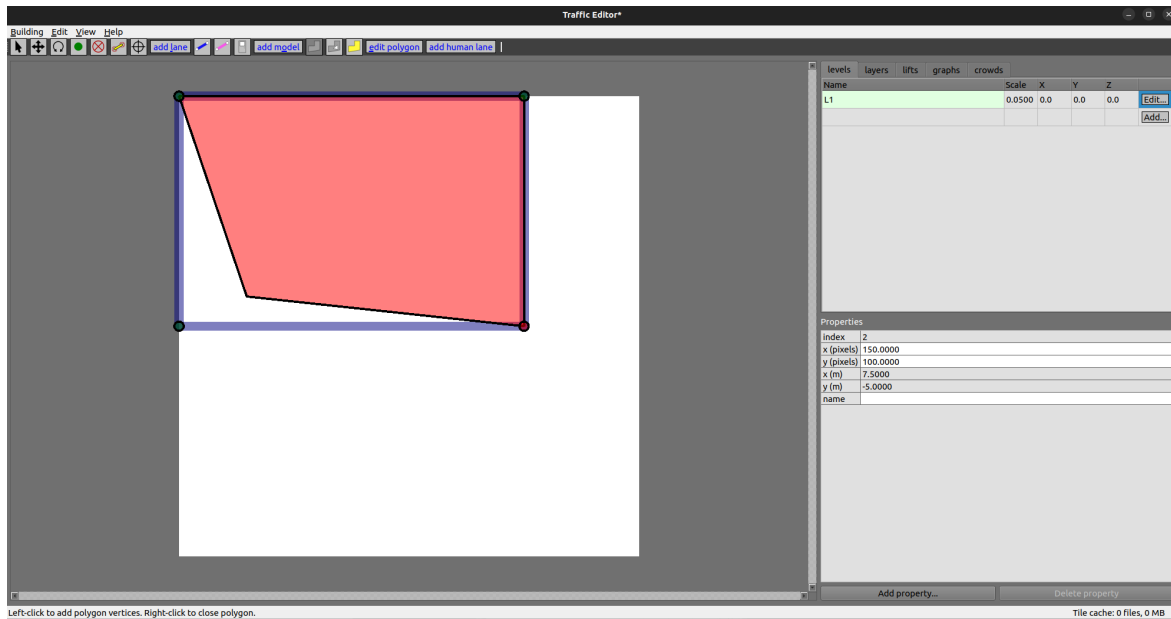

Figure 6: Adding a Floor
- Use the same vertices to add the floor with the floor tool (marked as a grey polygon or press 'F'), just click all the vertices in clock-wise or counter clock-wise order and right-click when done(Figure 6).